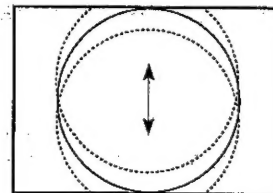

Fig. 1
- Adjust the Vertical location to obtain picture centering (fig. 1).